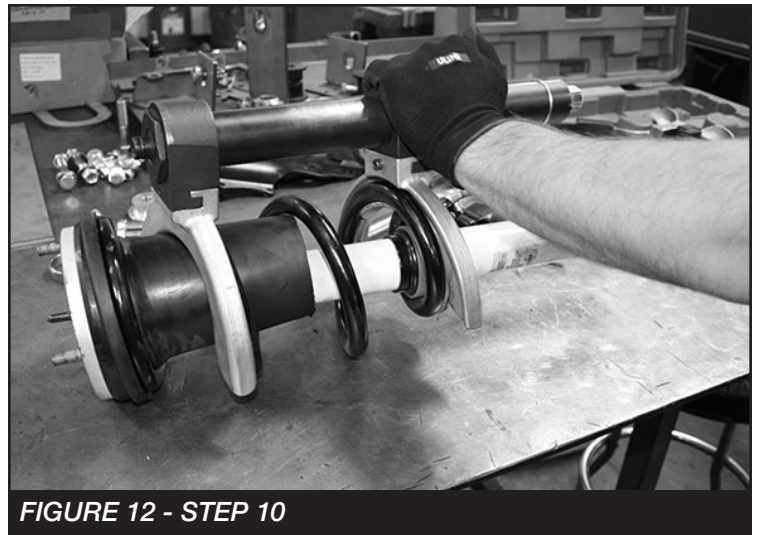

FIGURE 9 - STEP 7
7. Locate the plastic wire harness channel on the top of the passenger side coilover mount. Push it up and back to allow access to the three coilover nuts. Remove and discard the upper coilover nuts. **SEE FIGURES 9**